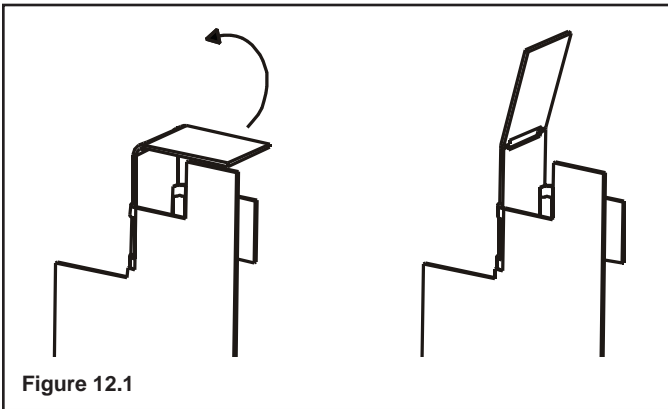

Figure 12.1
- Bend top retaining tab of grate shipping support into vertical position (see Figure 12.1).